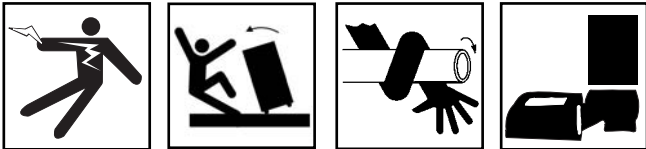

Figure 2 – Warning Label
5. Check that the warning label is firmly attached and readable. See Figure 2.